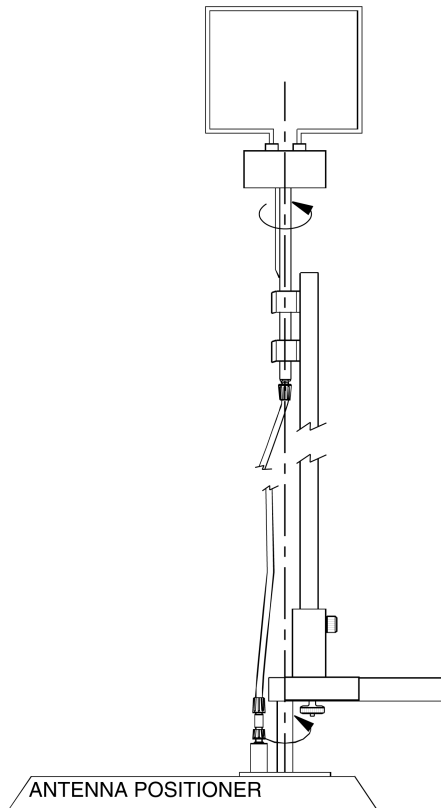

**Figure 12-19. Second set-up with the loop antenna**
- ☐ 8. Rotate the receiving antenna so the loop is perpendicular to the previous set-up, as shown in Figure 12-19. Perform an acquisition and store it as the E-plane of a new document (Document2).